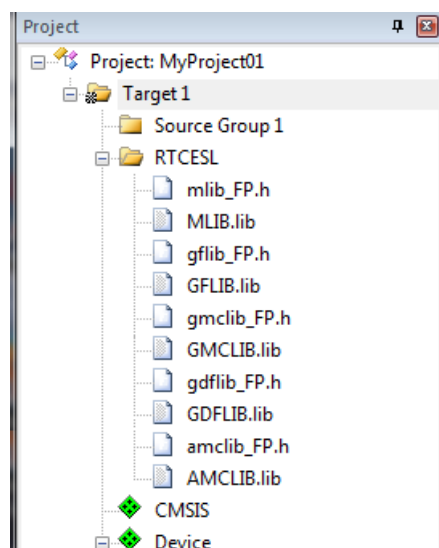

Figure 1-36. Project workspace
14. Now, all necessary files are in the project tree; see Figure 1-36. Click Close.